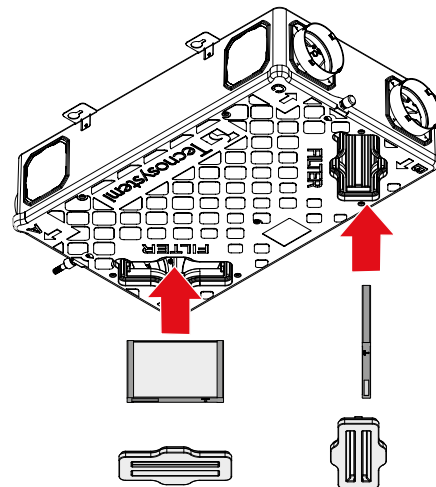

Fig. 4
4. Replace the filters in their housing (fig. 4).
5. Close the protective covers (fig. 4).